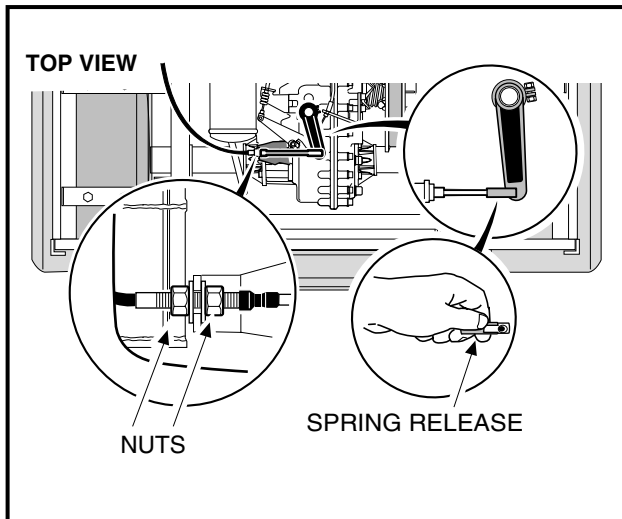

Figure 16-52 Connect Shifter Cable
- 26.5. Position the shifter cable in the shifter cable mounting bracket on the transaxle and tighten the mounting nuts to 22 ft-lb (29.8 N·m). Connect shifter cable rod end to the shifter arm **(Figure 16-52, Page 16-21)**.